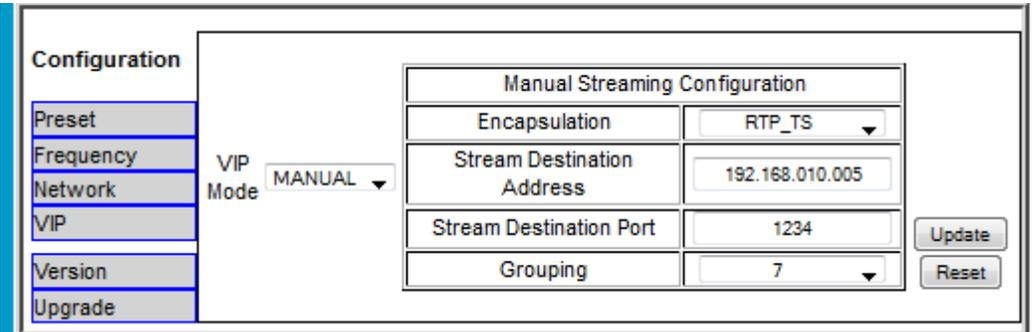

Figure 5-14: Manual Streaming Configuration
1. Open up VIP menu and using the 'VIP Mode' drop down menu, press the 'MANUAL' option. The 'Manual Streaming Configuration' menu will be accessed as shown in **Figure 5-14**.
1. Open up VIP menu and using the 'VIP Mode' drop down press the 'MANUAL' option. The 'Manual Streaming Configuration' menu will be accessed as shown in **Figure 5-14**.